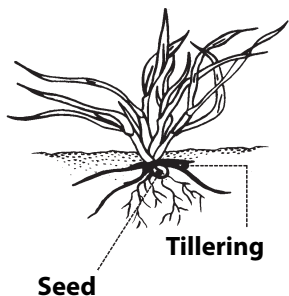

Fig. 3.1
**Normal Planting Depth: from 2 to 4 cm (Fig. 3.1)**